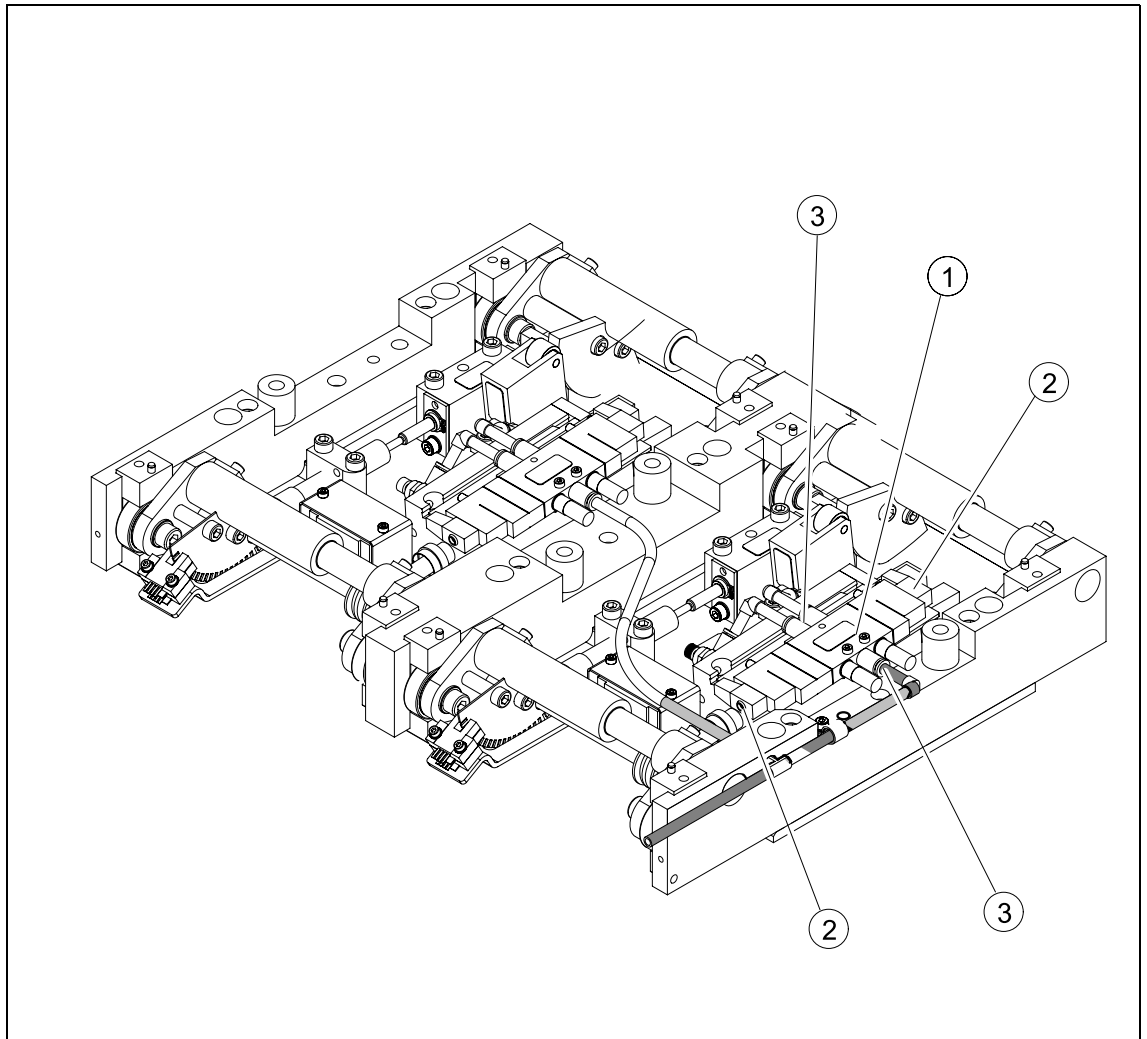

Fig. 6.11.11 Replacing the 5/3 solenoid valve
- Undo the fastening screws for the solenoid valve (see also Fig. 6.11.11) and remove it from the lifting table cylinder.